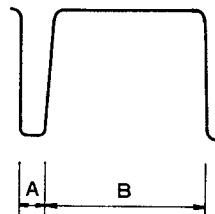

Fig. 9-3
- Vary the setting of PWM (PVR6) to "10" and LFO SPEED (PVR2) to "S". Then the waveform of Fig. 9-3 at terminal OUT (TP24).